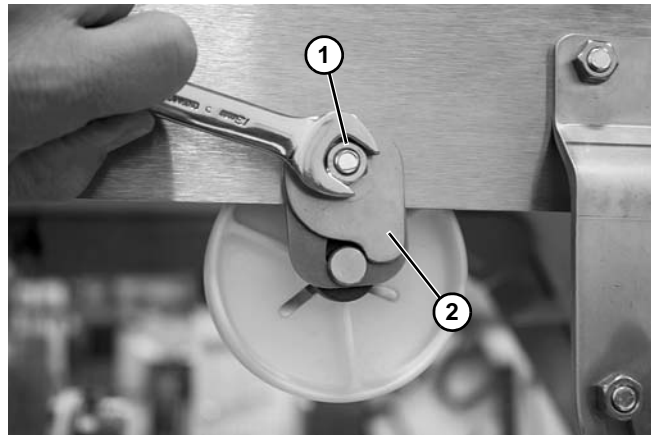

Figure 137
1. Loosen nut (**Figure 137, item 1**) and rotate return clip (**Figure 137, item 2**) up on both sides of conveyor. Loosely tighten nuts to hold clip in place.